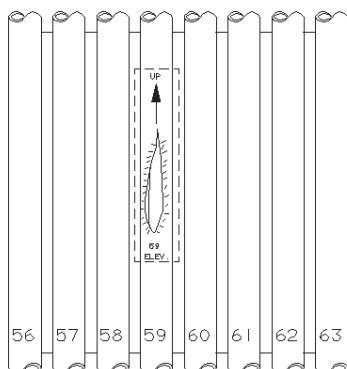

Figure 4.1 Typical Tube Removal Location Index
4.1.3 The exact location should be documented as follows (See Figure 4.1):